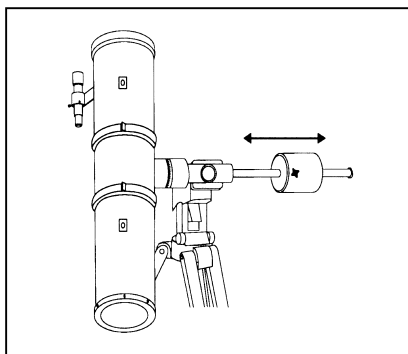

Figure 2a
1. Release the R.A. Clamp and position the telescope off to one side of the mount (see figure 2a).